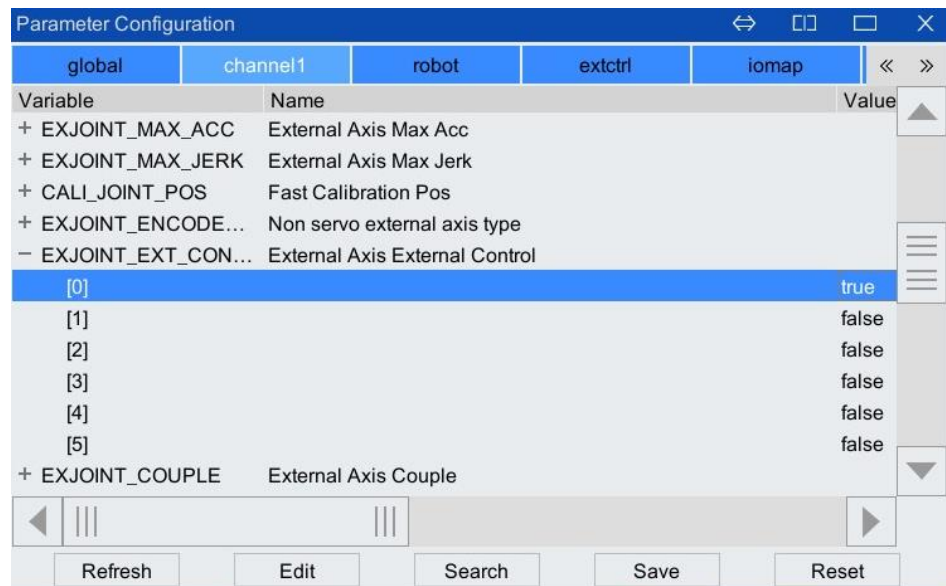

Figure 6-13 Whether the external axis uses external control (EXJOINT_EXT_CONTROL) parameter configuration interface
Step1. Select [System/Parameter Configuration/Channel] in the upper right corner of the teach pendant main interface, click [+] on the left side of the [EXJOINT_EXT_CONTROL] parameter, and check that the value of the [0] sub-item is "true" in the expanded sub-items. As shown in Figure 6-13.